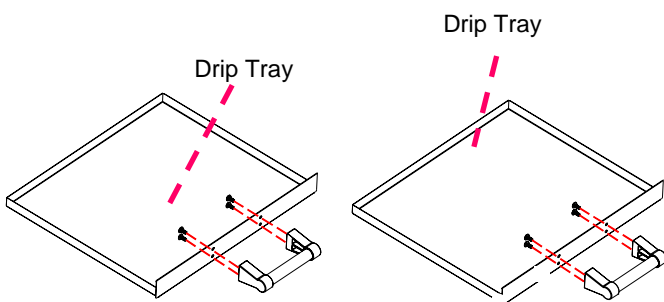

Fig.18A
*Locate:* (2) Drip Trays, (4) Handle Stand-offs, (8) M6x15 bolts, (2) short handle tubes,
*Procedure:* Refer to Fig. 18A - Place (2) M6x15 bolts through the holes on one side of the Trays. Fit a Handle Stand-off over the bolts and attach the Stand-off to the Drawer. Fit the Short Handle Tube into both Stand-offs and then repeat the procedure of inserting the screws through the Trays and into the other Stand-off. Tighten all (4) bolts securely for (2) Drip Trays one by one.